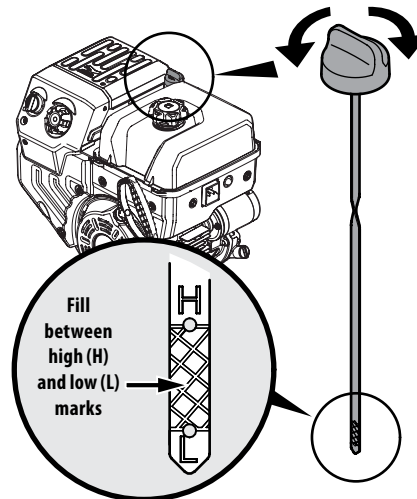

Figure 3-2
- Keep oil level between "H" and "L" marks on dipstick. See Figure 3-2.
1. Remove the oil filler cap/dipstick and wipe the dipstick clean. See Figure 3-2.
3. Remove the oil filler cap/dipstick. If the level is low, slowly add oil until oil level registers between high (H) and low (L), Figure 3-2.
4. Loosen and remove the oil fill cap dipstick from the oil filler tube. Note the oil level, if oil reading on the dipstick is below the "L" mark, slowly add oil to reach the "H" level. See Figure 3-2.